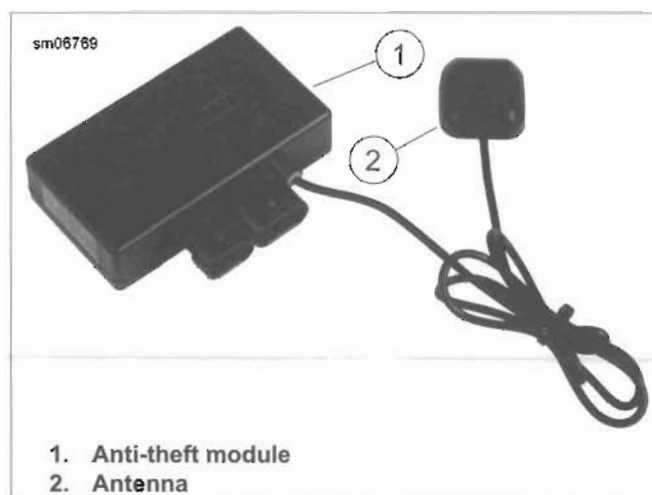

Figure 7-15. Anti-Theft Module (Brazil market)
- Anti-theft units see Figure 7-15. The anti-theft tracking module is combined with the security siren. An antenna is hard wired to the anti-theft module and needs to be detached from its mounting position.